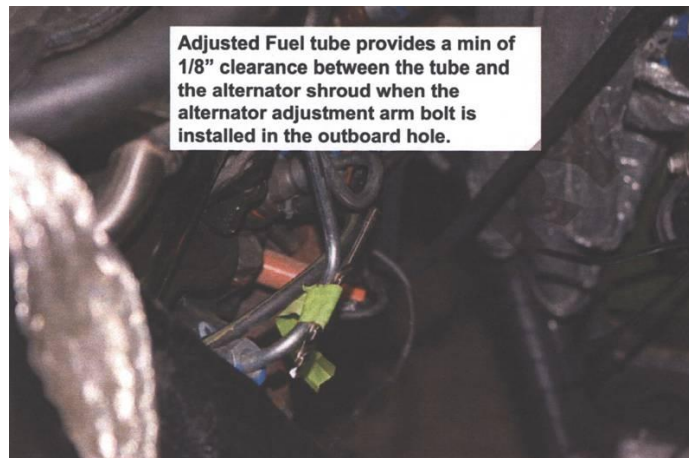

Figure 33
(4) Before installing the 400 Amp Alternator pre-adjust number 3 fuel injection line using the Fuel Line Adjustment Tool P/N 2008E0713, as shown in **Figure 33**.